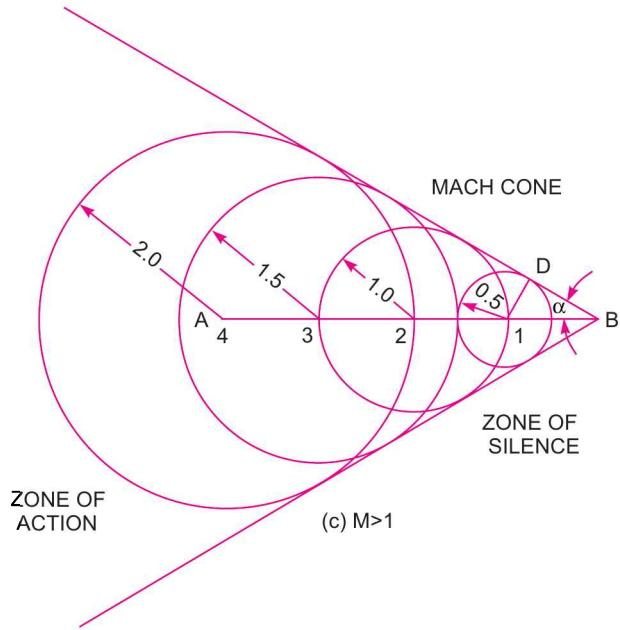

Fig. 15.3 Propagation of disturbance for different Mach numbers.
Let in 4 seconds the projectile reaches to the position  $B$ . At  $A$ , the point 4 is also marked. The position of the projectile after 1 sec, 2 sec, 3 sec and 4 sec along the lines are shown by the points 3, 2, 1 and  $B$  respectively. The projectile moves from  $A$  to  $B$  in 4 seconds and hence the distance  $AB = 4 \times V = 4 \times 1 = 4$  units. The disturbance created at  $A$  in 4 seconds will move a distance  $= 4C = 4 \times 2 = 8$  units in all directions. Hence taking  $A$  as centre and radius equal to 8 units, a circle is drawn. This circle gives the position of disturbance after 4 seconds. When the projectile is at point 3, it will reach  $B$  in three seconds and distance  $3B = 3 \times V = 3 \times 1 = 3$  units. But the disturbance created at point 3 in three seconds will move a distance having a radius  $= 3 \times C = 3 \times 2 = 6$  units. Similarly at point 2, the disturbance will have a radius  $= 2 \times C = 4$  units and at point 1, the disturbance will have a radius  $= 1 \times C = 1 \times 2 = 2$  units. This is shown in Fig. 15.3 (a).
**2nd Case : When  $M = 1$ .** When  $M = 1$ , the flow is known as sonic flow. In this case, the disturbance always travels with the projectile as shown in Fig. 15.3 (b). Let  $V = 1$  unit, and  $C = 1$  unit so that  $M = \frac{V}{C} = \frac{1}{1} = 1.0$ . Let the projectile moves from  $A$  to  $B$  in 4 seconds. The disturbance created at  $A$  in 4 seconds will move a distance having radius  $= 4 \times C = 4 \times 1 = 4$  units in all directions. The projectile
**3rd Case : When  $M > 1$ .** When  $M > 1$ , the flow is known as supersonic flow. Let  $V = 1$  unit and  $C = 0.5$  unit so that  $M = \frac{V}{C} = \frac{1}{0.5} = 2.0$ , which is greater than unity. Let the projectile moves from *A* to *B* in 4 seconds. The distance travelled by the projectile in 4 seconds =  $4 \times V = 4 \times 1 = 4$  units. Hence, take  $AB = 4$  units. The disturbance created at *A* will move in all directions and in 4 seconds, the radius of disturbance will be equal to  $4 \times C = 4 \times 0.5 = 2$  units. Hence taking *A* as centre, draw a circle with radius equal to 2 units. After one second from *A*, the projectile will be at point 3 and distance  $A3 = V \times 1 = 1 \times 1 = 1$  unit. The projectile from point 3 will reach point *B* in three seconds. Hence the disturbance created at point 3 will move in all directions and in three seconds, the radius of disturbance from point 3 will be equal to  $3 \times C = 3 \times 0.5 = 1.5$  units. Similarly the radius of disturbance at point 2 and 1 will be  $2 \times C = 2 \times 0.5 = 1$  unit and  $1 \times C = 1 \times 0.5 = 0.5$  unit respectively as shown in Fig. 15.3 (c). In this case the sphere of propagation of disturbance always lags behind the projectile. If we draw a tangent to the different circles which represent the propagated spherical waves on both sides, we shall get a cone with vertex at *B*. This cone is known as **Mach Cone**.
**15.6.1 Mach Angle.** This is defined as the half of the angle of the Mach cone. In Fig. 15.3 (c), angle  $\alpha$  is known as Mach angle. In the  $\Delta 1BD$  of Fig. 15.3 (c), the distance  $1B$  = Velocity of projectile =  $V$ , the distance  $1D$  = Velocity of sound wave =  $C$ . Hence we have